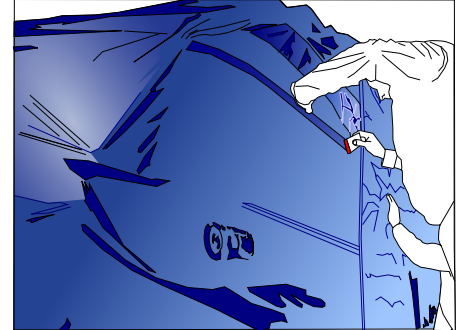

Figure 03
- › Starting from the stern, remove several tens of centimetres of the liner. (FIG. 03)